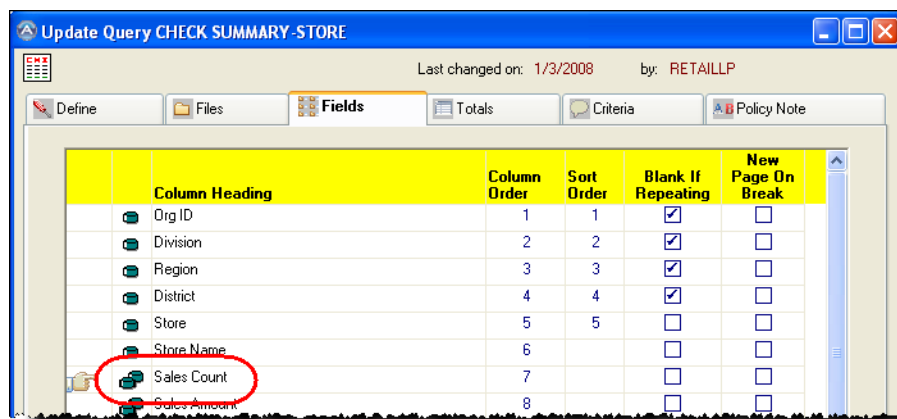

Figure 1-9: Calculated Field
6. Click the **Close** button. In the **Fields** tab, a double cylinder icon is now displayed next to the field name indicating that this field is now an aggregate field (Figure 1-9).